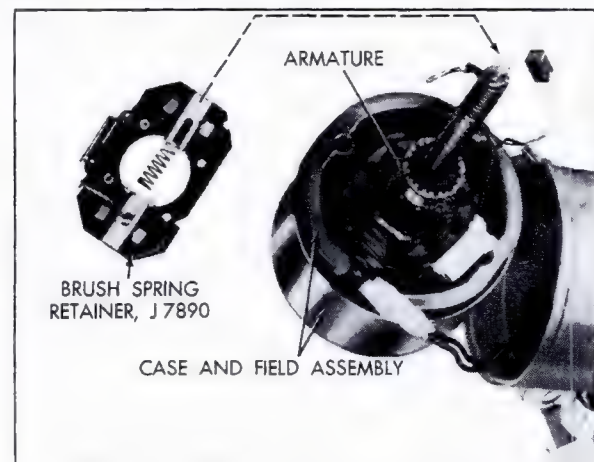

Fig. 12-22 Installing Armature and Brush Plate
5. Assemble armature in the case and field assembly, Fig. 12-22.
6. Position the partially assembled brush plate, Fig. 12-22, over the armature shaft far enough to allow assembly of the remaining brush in its